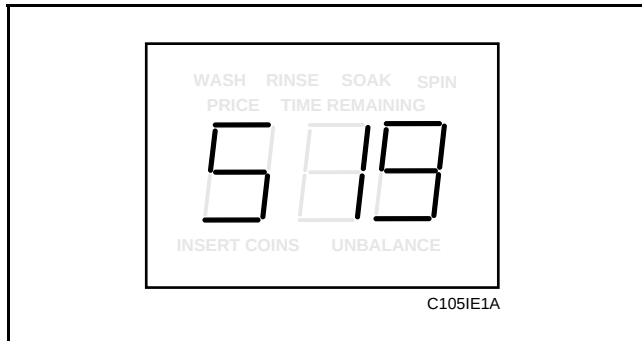

Figure 34
2. While pressing and holding the PERM PRESS keypad with one hand, press the COLD keypad with the other hand. Programmable option number one, “Slg”, will appear in the VFD. See **Figure 34**.